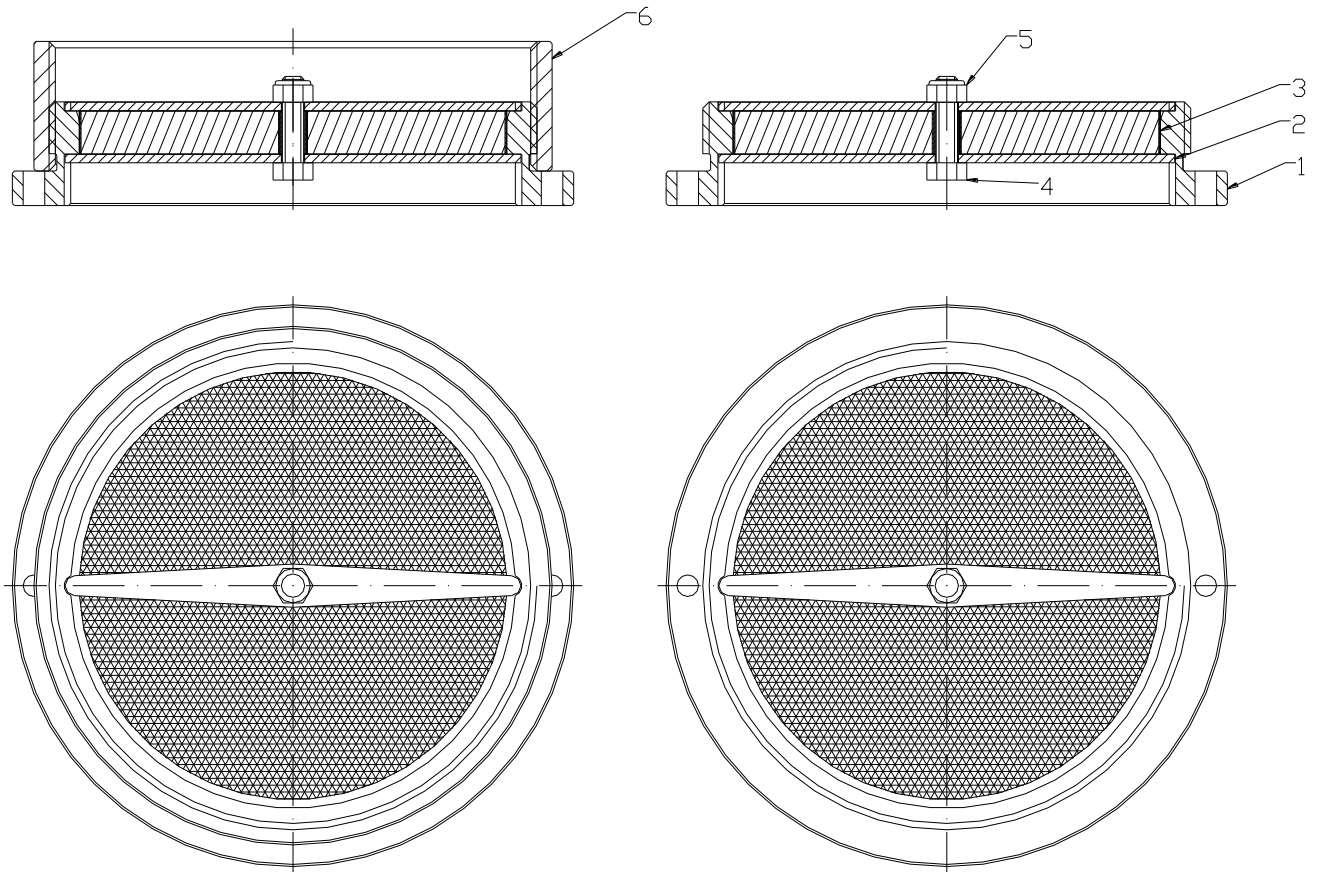

Fig. 1
5. Technical specifications (See fig.1)
6. Assembly (See figure 1)